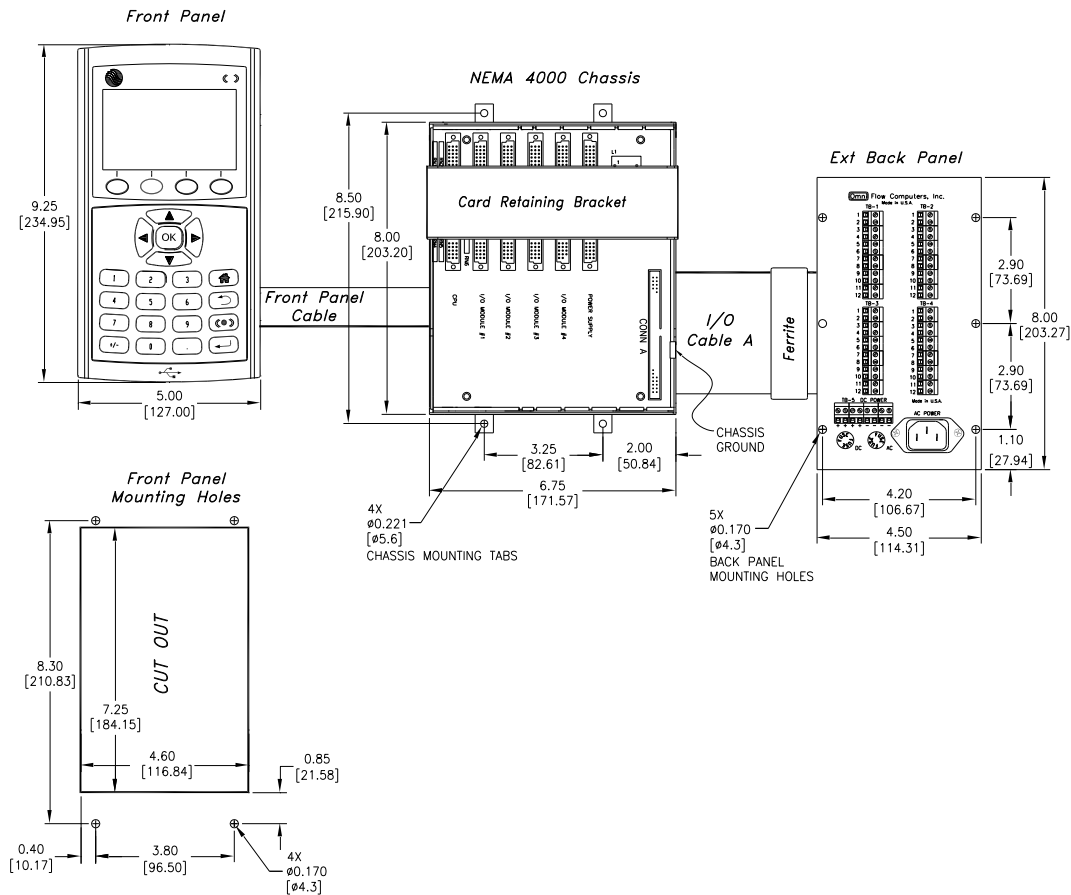
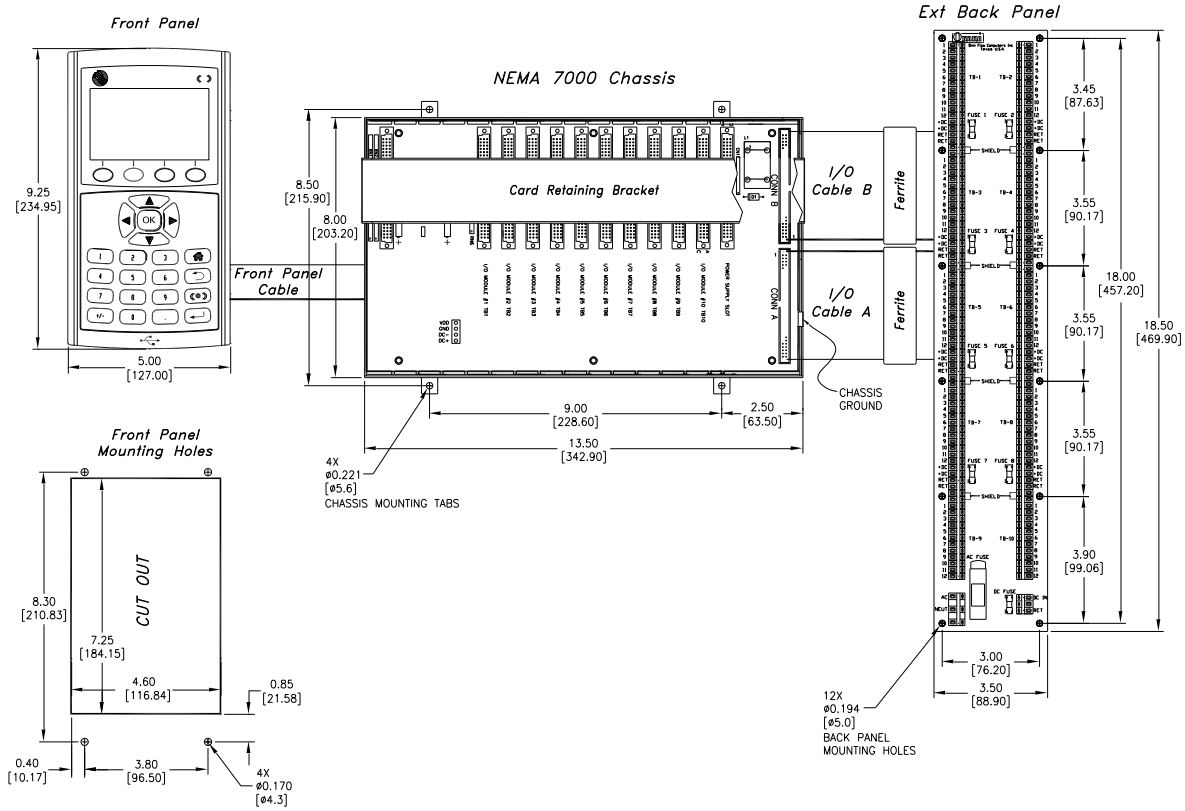
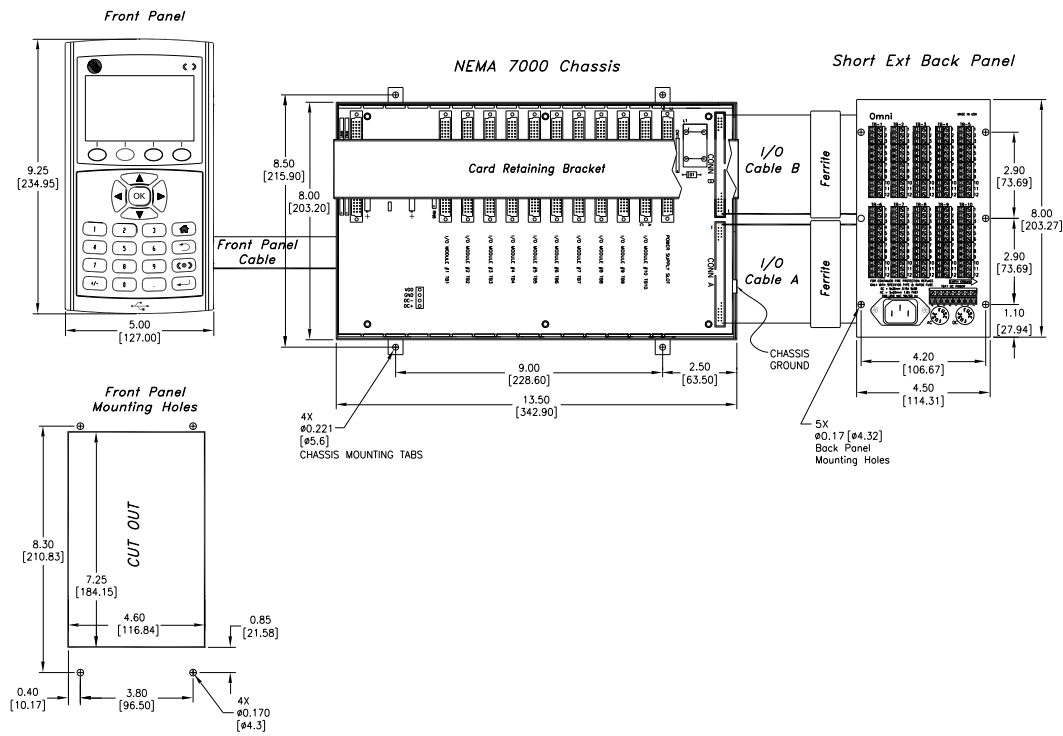

Figure 3-10: OMNI 4000 NEMA Mount
Figure 3-11: OMNI 7000 NEMA Mount
Figure 3-12: OMNI 7000 NEMA Mount with Short Extended Back Panel
Figure 3-10, Figure 3-11 and Figure 3-12 illustrate the OMNI 4000 and 7000 flow computer NEMA mount configuration, which includes the separate front panel, the standard extended back panel and the short extended back panel.
3. Cut out the front panel mounting plate as indicated in Figure 3-10 (OMNI 4000) or Figure 3-11 (OMNI 7000).
4. Use the 4 factory-supplied screws to mount the front panel where indicated in Figure 3-10 or Figure 3-11.